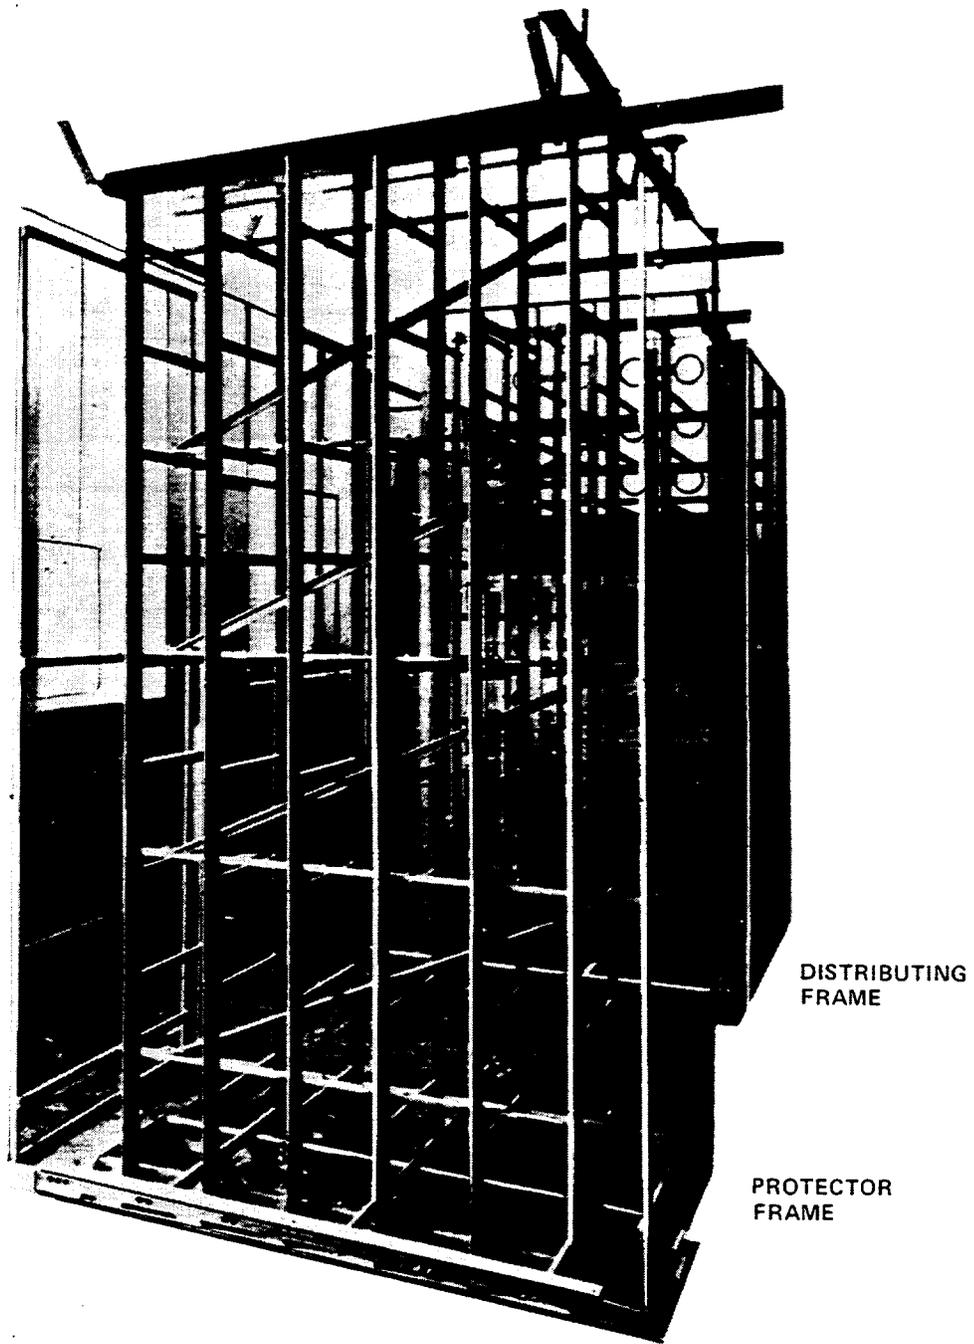

Figure 12—Low Profile Double-Sided Protector Frame
5.13 The LPDPF (Figure 12) is used to terminate outside plant cable pairs on central office connectors for cabling to connecting blocks on the distributing frame. The LPDPF conforms to NEBS (Network Equipment Building System Standards) 8-foot height requirements.